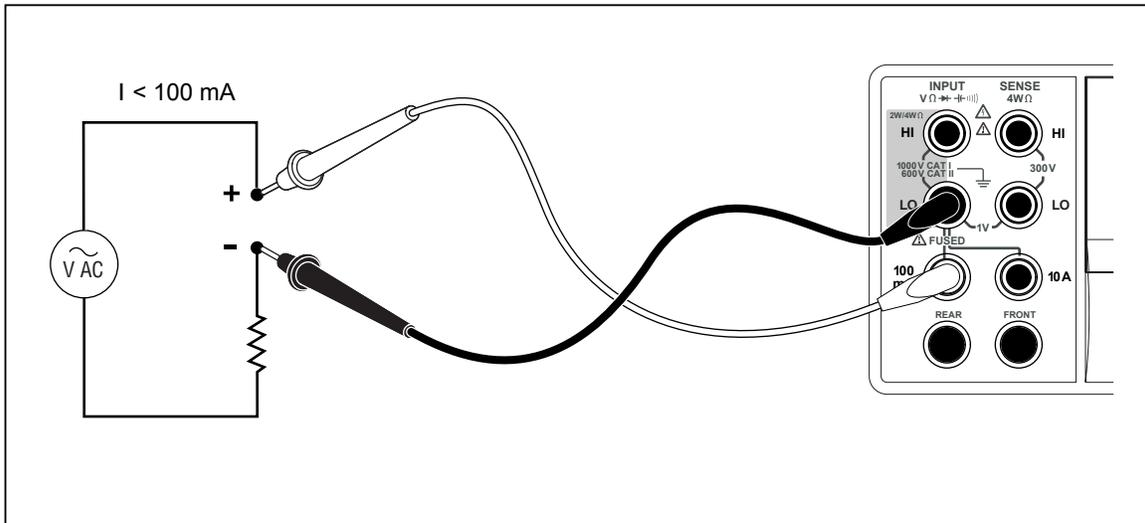
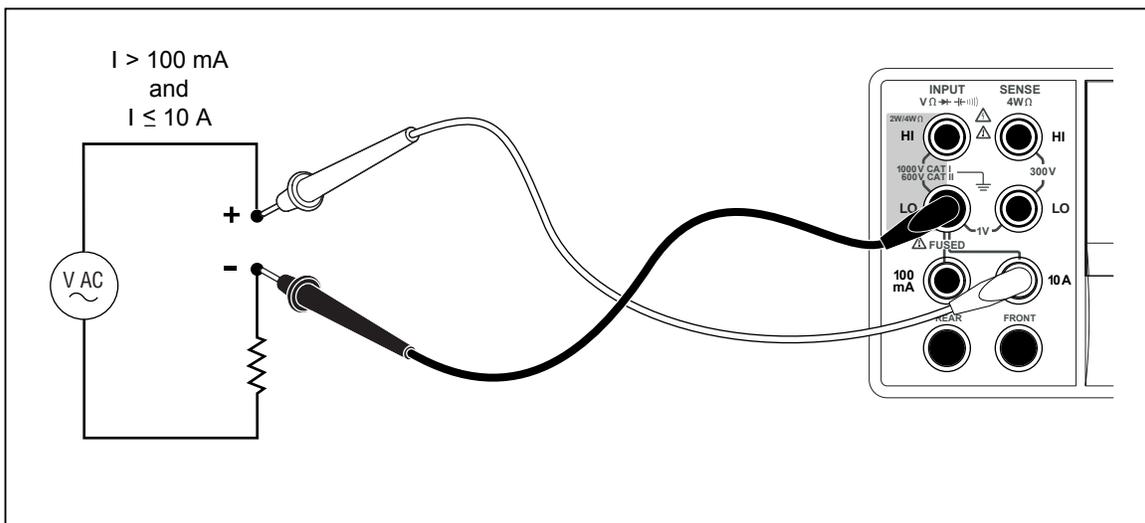

Figure 4-4. Input Connections for Current Measurements Below 120 mA
Figure 4-5. Input Connections for Current Measurements Above 120 mA
The Meter is capable of making both ac and dc current measurements up to 10 A. Two separate input connectors, in conjunction with the **LO** connector, are used for current measurements. For best resolution, current measurements not exceeding 100 mA should be made using the **LO** and **mA** input connectors as shown in Figure 4-4.
Current measurements expecting to be between 120 mA and 10 A are made using the Input **LO** and **10A** input connectors as shown in Figure 4-5.
1. Connect the test leads between the Meter’s input connectors and the measured circuit as shown in Figure 4-4 for currents 120 mA or less or Figure 4-5 for currents up to 10 amps.
1. Connect the test leads between the Meter's input connectors and the measured circuit as shown in Figure 4-4 or Figure 4-5, based on the anticipated level of current.